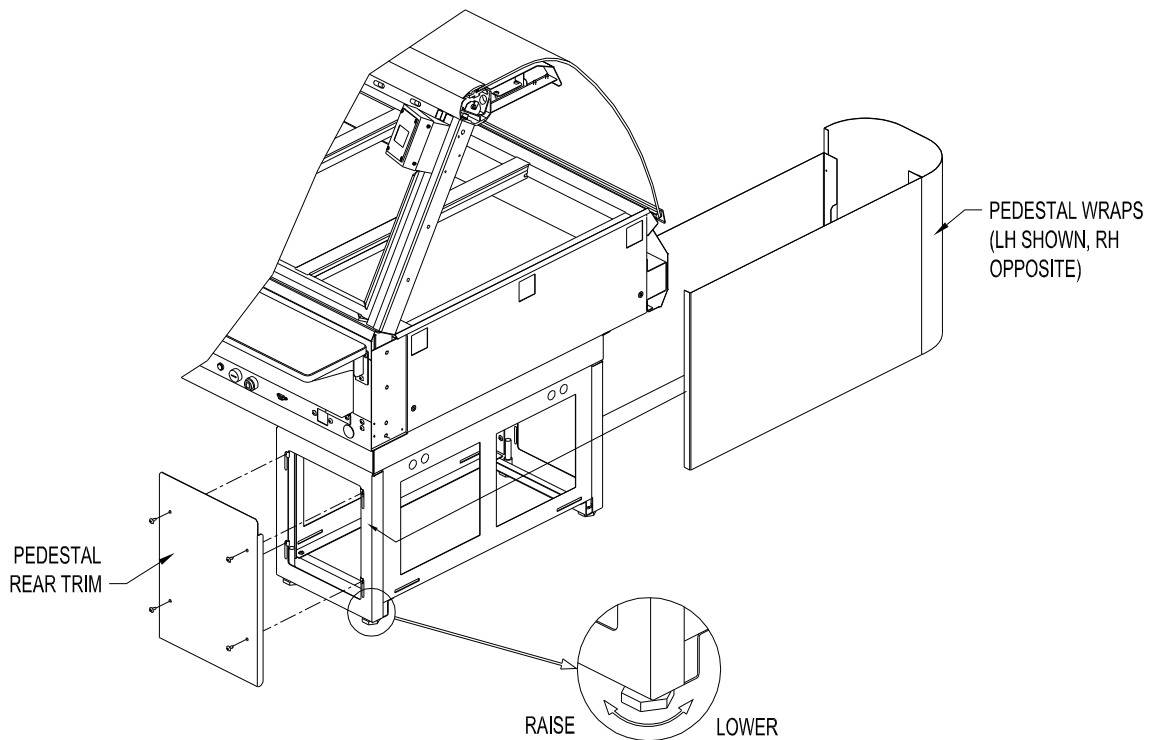

Figure 3. Pedestal Model - Leveling and Cover Attachment
1. Level the case using the leg levelers at the corners of the pedestals (see Figure 3).
1. Remove the Rear Trim from the back of each Pedestal by removing the (4) retaining screws on each Rear Trim.
2. Spread the side panels of the Pedestal Wraps apart far enough to fit around Pedestal and slide the Pedestal Wrap around the Pedestal from the front as shown in Figure 3. Make certain the Pedestal Wrap fits flush to the floor.